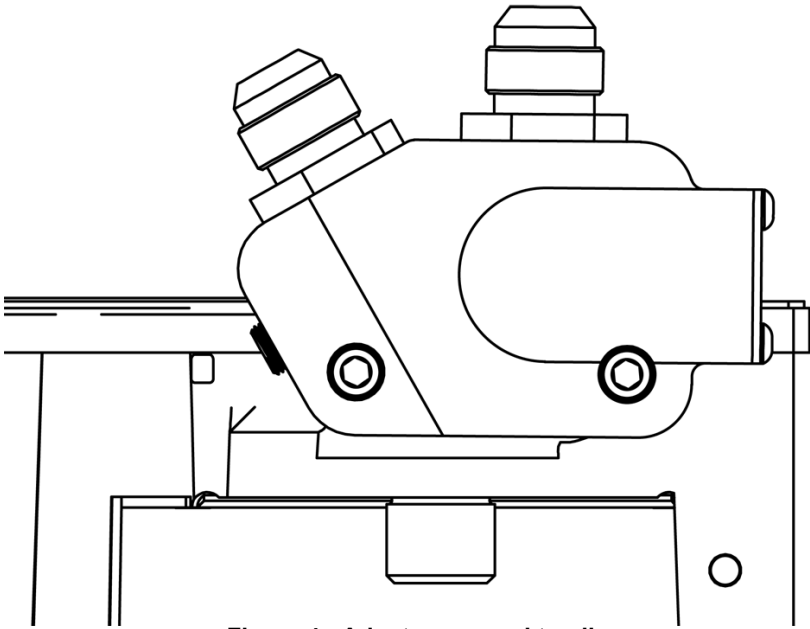

Figure 4 - Adapter secured to oil pan
3. Use a 5mm Allen key wrench to secure the adapter to the oil pan with the retaining bolts provided as shown in Figure 4.